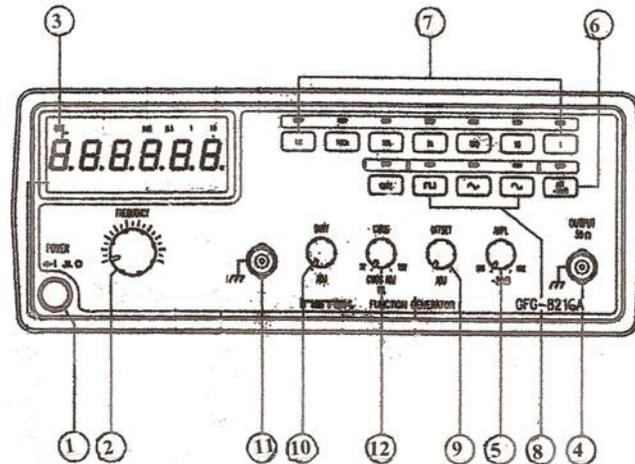

Figure A4 : Front panel of Function Generator
Description of front panel items (according to the indicated item number in Figure A4)
The Instek GFG-8216A FUNCTION GENERATOR : The front panel of the GFG8216A function generator is shown in Figure A4, followed by brief descriptions of various controls. **The student should become familiar with all the features of the FG.** The FG also has two other input connectors on the rear panel, which are not used for this lab. [The front panel button labelled “Gate” operates only when the ‘counter’ input on the rear panel is used, and is not described in the explanation of terms following Figure A4]
2. Press AUTOSET located at the top part of the panel. Pressing this button automatically selects the proper settings required for an *optimum* display of the signals applied to the input terminals. Pressing AUTOSET with no applied input, for example, displays the typical screen shown in Figure A4 which shows ‘noise’ voltages appearing across the BNC-to-Banana Jack adapter input terminals